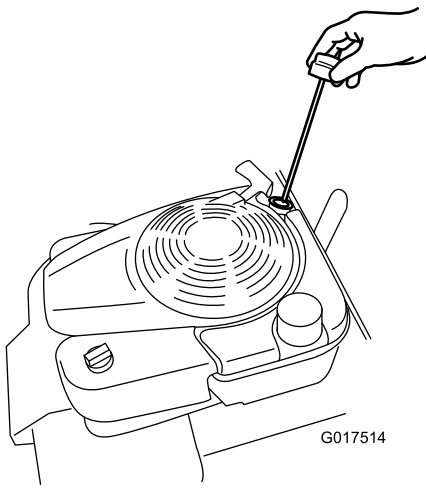

Figure 32
8. Remove the dipstick (Figure 32) and pour about 3/4 of the crankcase capacity of oil into the oil-fill tube.